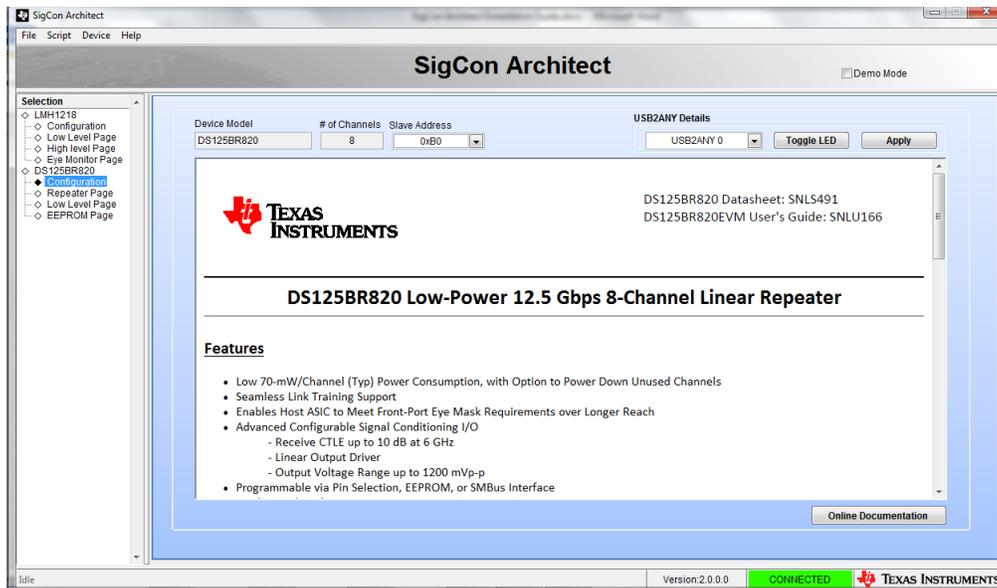

Figure 5. SigCon Architect DS125BR820 Profile Configuration Page.
5. Open SigCon Architect and select the Configuration Page for the desired profile. In this example, select the Configuration page for the DS125BR820 profile as shown in Figure 5.